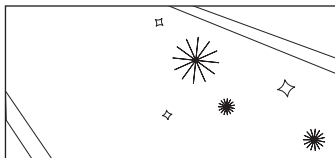

Fig. 3
STEP 02 Set your griddle to high heat until your griddle top changes color. (~10 min) (See Fig. 3)